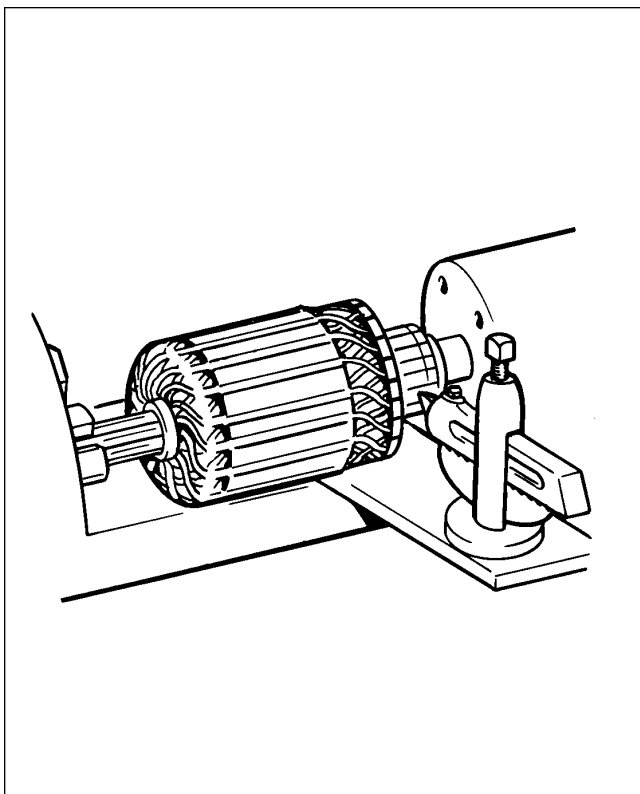

Figure 80-2. Turning Motor Commutator
1. Check the commutator for uneven wear, excessive glazing or evidence of excessive arcing. If only slightly dirty, glazed or discolored, the commutator can be cleaned with 00 or 000 sandpaper. If the commutator is rough or worn, it should be turned in a lathe. (Refer to Figure 80-2.) The armature shaft should be inspected for rough bearing surfaces and rough or damaged splines.